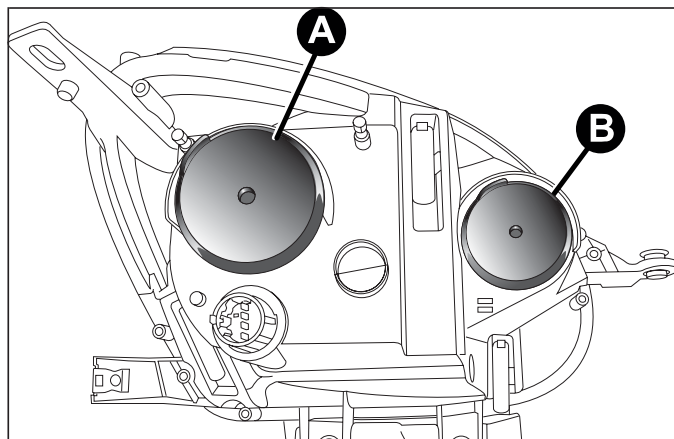

fig. 125
These contain the bulbs for the dipped beams, main beams and direction indicators. The bulbs are arranged as follows fig. 125:
- ☐ remove cover A fig. 125;
- ☐ then refit the cover A fig. 125.
- ☐ remove cover B fig. 125;